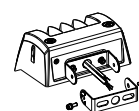

figure 5.2
Step 2:Tighten the brackets and screws.(figure 5.2)